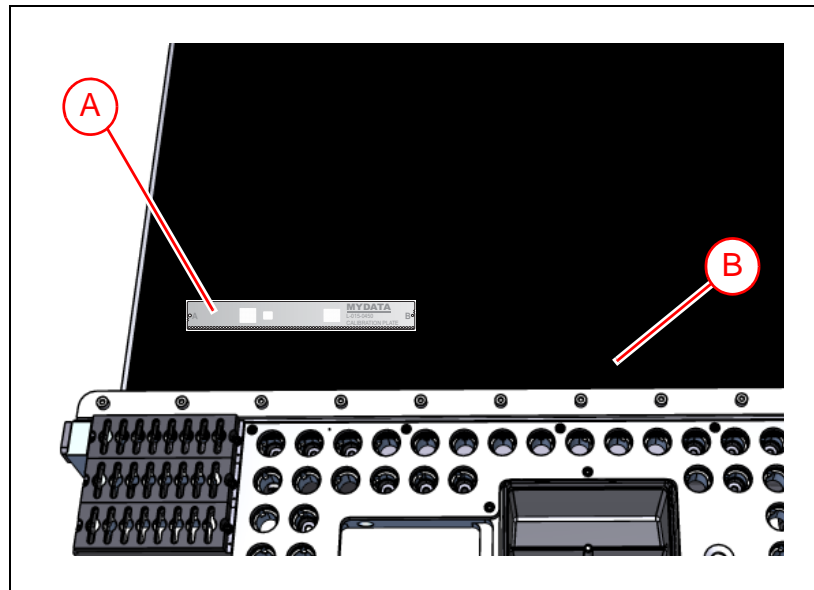

Figure 4-7. Area calibration plate on area calibration background.
3. When prompted, place the area calibration plate ('A' in Figure 4-7) on the area calibration background ('B').